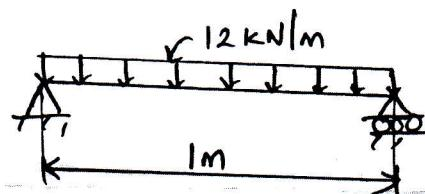

Fig Q4
- 4 Fig Q4 shows a simply supported beam subjected to a uniformly distributed load. Obtain the maximum deflection. Take $E = 200\text{GPa}$ and moment of Inertia $I = 2 \times 10^6\text{mm}^4$.